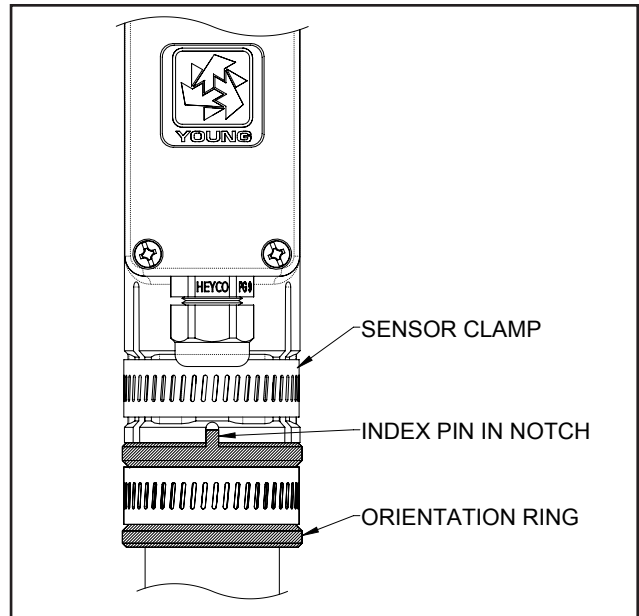

Fig 4.2.3 Proper Engagement of Orientation Ring with Sensor
- 4 Slide the orientation ring up so its guide pin is fully engaged in the sensor mounting post notch (Fig 4.2.3). Tighten the orientation ring band clamp to secure its position. **DO NOT OVER-TIGHTEN.**